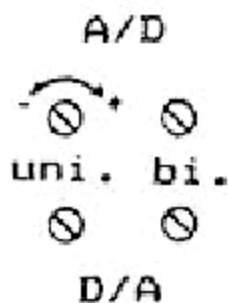

Figure C-1: Adjustment potentiometer on the MC-12
- If **OVERFLOW** is displayed: Adjust the potentiometer (see Figure C-1) with a screwdriver to the left (counterclockwise) until the display flickers